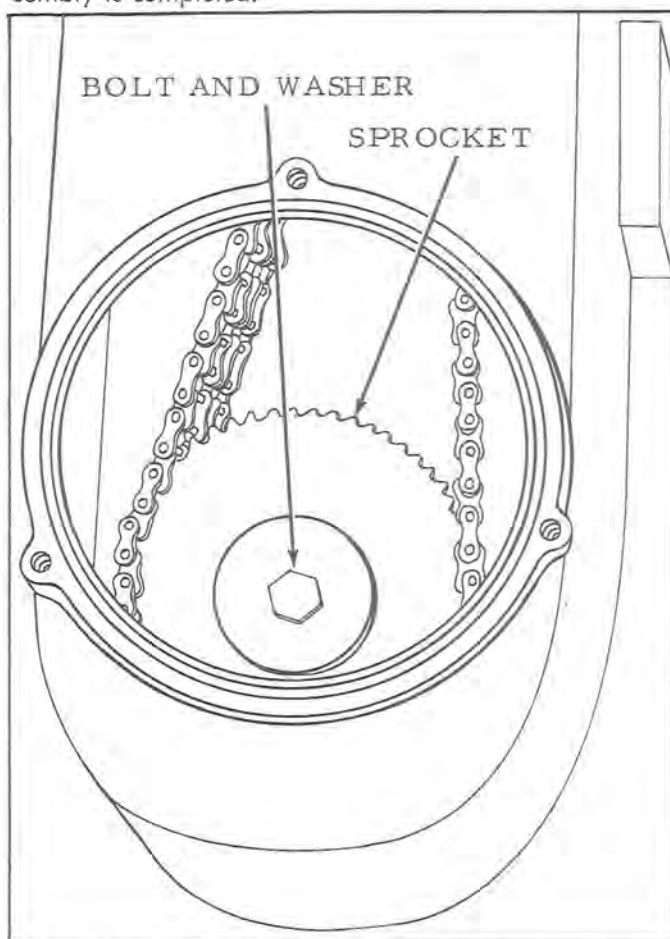

Figure 3
10. Remove the bolt and washer from the end of the drive shaft (See Figure 3). Tap on the drive sprockets with a hammer. Tap them to the right side. This will free the drive shaft from the gear shaft.